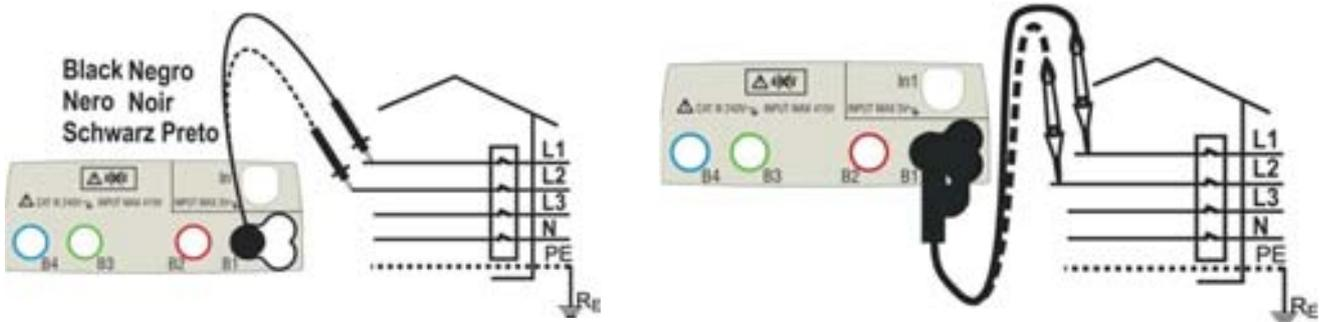
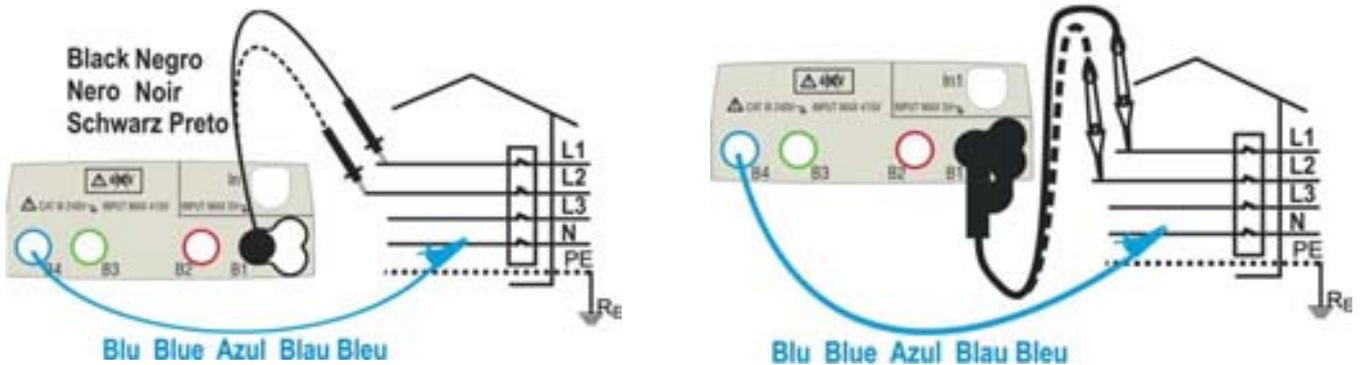

Fig. 24: Phase sequence check of 1T phases with terminal and remote lead
Fig. 25: Phase sequence check of 2T phases with terminal and remote lead
3. Insert the blue and black connectors of the single cables in the corresponding input terminals of the instrument B4, B1 (2T measurement). Insert in the free end of the cables the corresponding alligator clips or tips. It is also possible to use the remote lead by inserting its multipolar connector into the input lead B1. Connect the alligator clips, the tips or the remote lead to phase L1 and N according to Fig. 24 and Fig. 25.
Under these conditions, connect the alligator clips, the tips or the remote lead to phase L2 and N in accordance with Fig. 24 and Fig. 25.